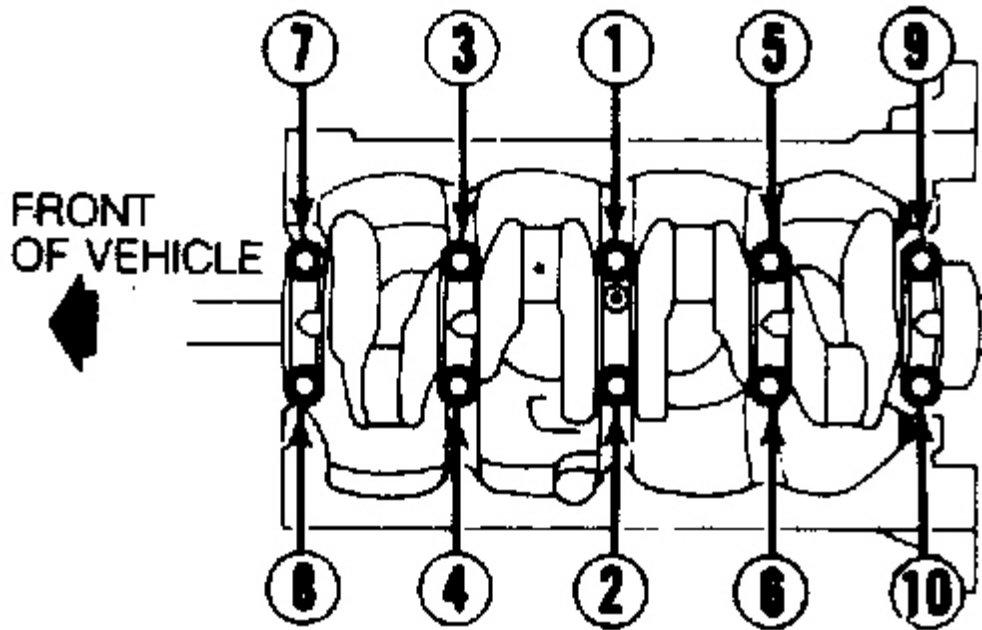

Fig. 1: Main Bearing Tightening Sequence
3. Measure bearing clearances using Plastigage method. Observe correct tightening sequence. See **Fig. 1** . If clearance exceeds specification, grind journals for undersize bearings.